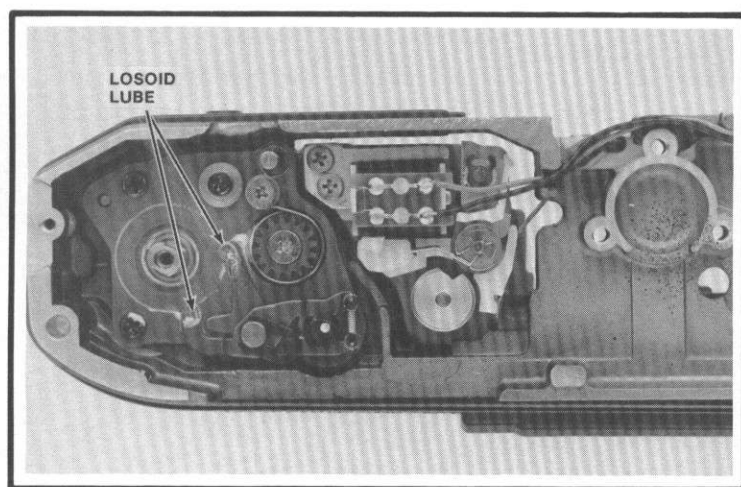

Figure 78
13. Lubricate the ends of the rewind latches, Fig. 78, with losoid grease.